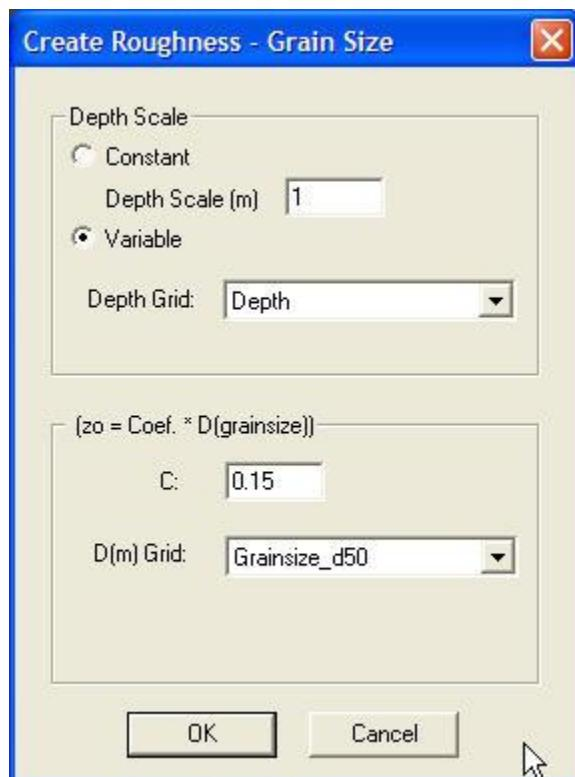

Figure 3.2.2h. Map roughness by using the input conditions of Grainsize_D50 and the Depth solution from the previous run.
- From the menu select **Preprocessing -> Set Roughness Input Condition -> Map w/Grainsize**. Set the parameters for the Create Roughness - Grain size dialog as in figure 3.2.2h below. This takes the grain size distribution and the depth solution from the first simulation (using a constant drag coefficient) and calculates a variable roughness, in the form of a drag coefficient, at each node in the grid. Next, you will use this variable drag coefficient to re-calibrate the model predictions.